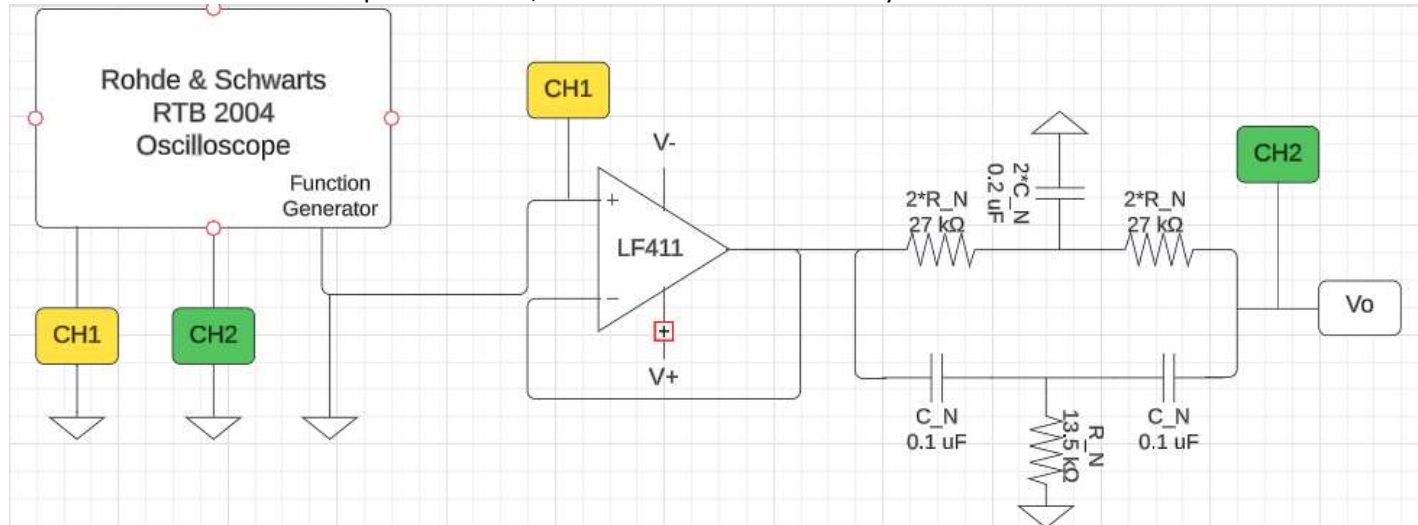

Figure 2: Circuit schematic of LF411 buffer amp and passive notch filter with recommended component values
1. Build the circuit of the passive notch filter in Figure 2. Two battery packs will be used to supply the positive and negative 9 V to the operational amplifier and should be wire accordingly as shown in Figure 2. (If any values need to be altered, refer to Figure 2 for the formulas of gain and components)
2. Verify the gain at the center frequency with CH1 (yellow) and CH2 (green) placed as shown in Figure 2.